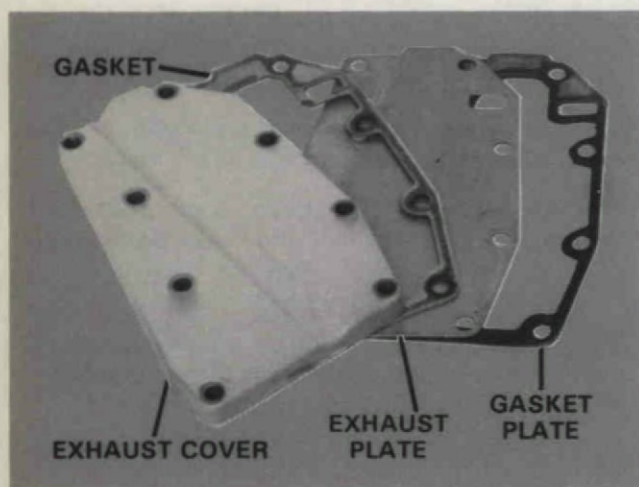

Figure 38. Positioning Exhaust Cover, Gaskets, Plate.
- B. Attach hose clamp with screw at top right hand corner of cover, install this screw and three (3) remaining hex head screws. Torque to 70 in. lbs. (80 kg/cm).
12. Install exhaust cover assembly in following order: exhaust cover gasket, exhaust plate, (second) exhaust cover gasket, exhaust cover, install eight (8) hex head screws and lead wire clip. Torque to 90 in. lbs. (103 kg/cm). Figure 38.